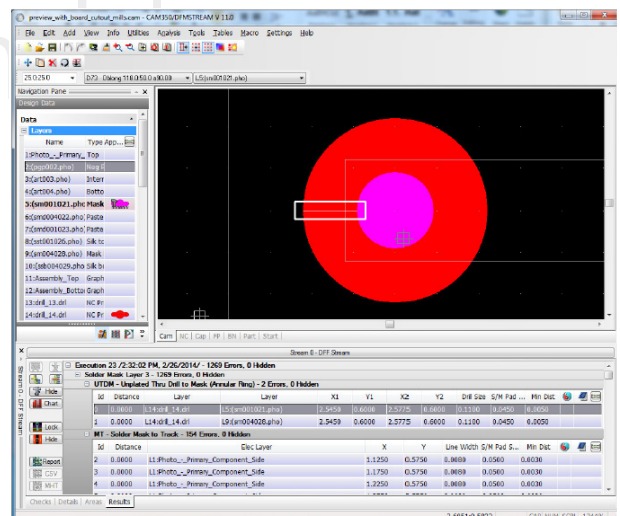

Abbildung 10: Solder Mask - Drill Annular Ring
- Drill Annular Ring (Abb. 10)